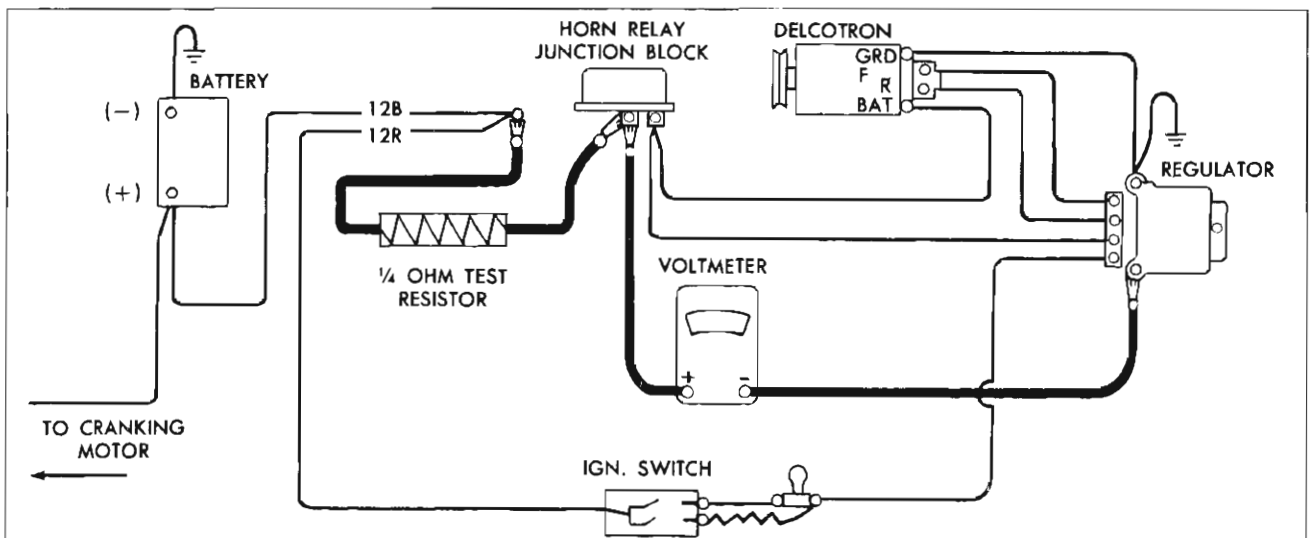

Fig. 10—Voltage Setting Test Connections
7. Connect a ¼ ohm-25 watt fixed resistor (purchased commercially) into the charging circuit at horn relay junction block as shown in Figure 10.